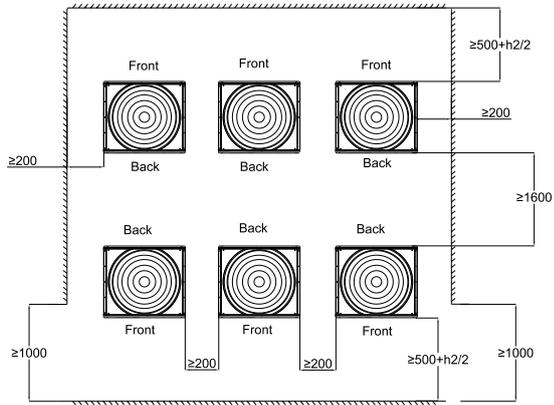

Figure 11
- Obstacles in the front, back and sides, back-to-back mounting 1 (see Figure 11)